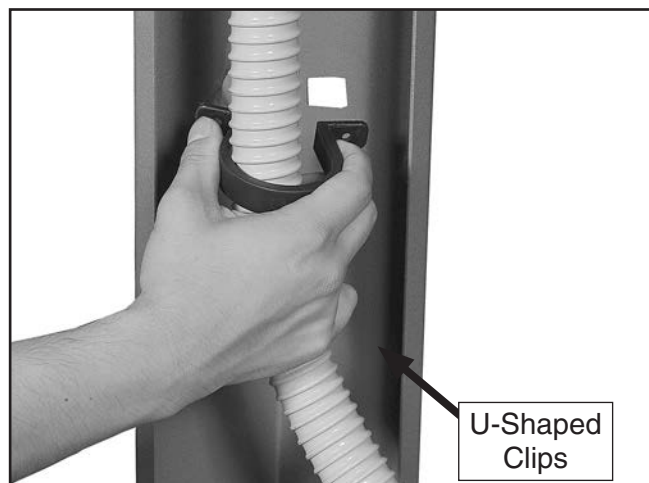

Figure 15. Securing vacuum hose to stand legs.
16. Secure vacuum hose inside upper and lower stand legs with (2) U-shaped clips (see **Figure 15**).